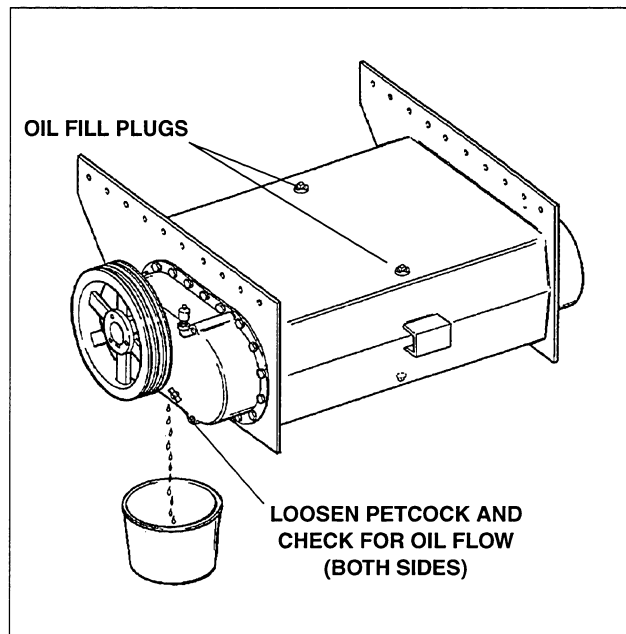

Figure 3-2. Checking Oil Level
2. Check oil level by loosening a petcock on each side of the vibrating unit (Figure 3-2). Close the petcock immediately if oil flow is present.